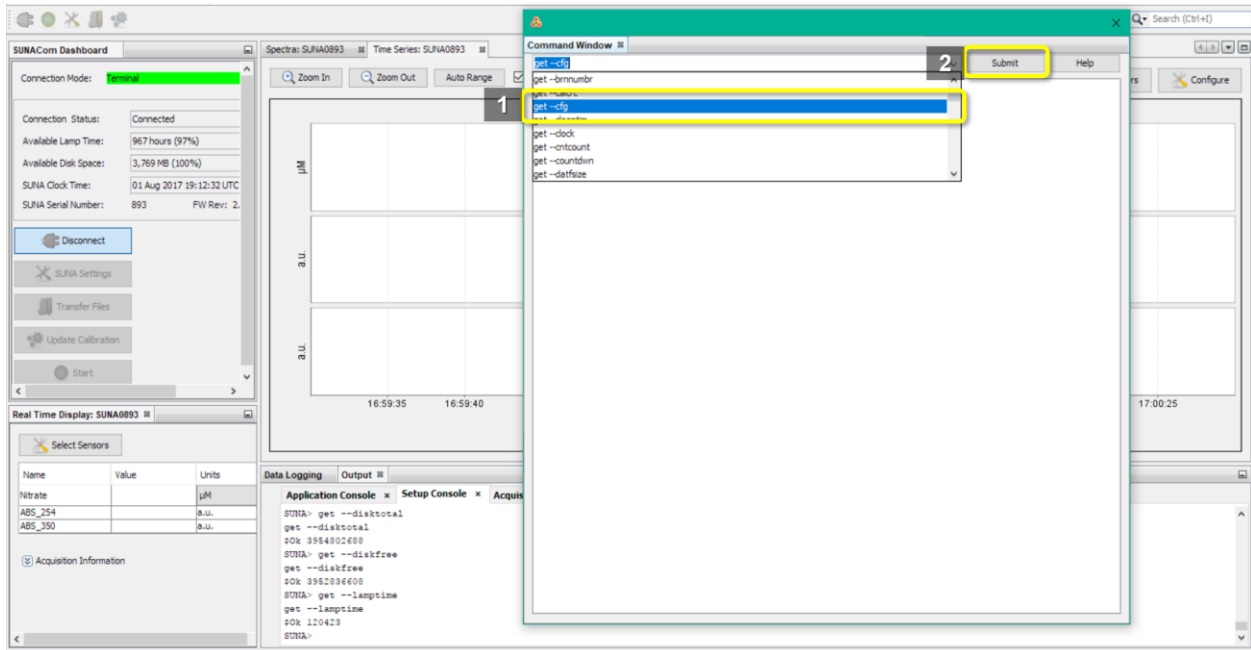

Figure 55. Command Terminal Window "get -- cfg"
10. This opens a **“Command Terminal”** window. Select **“get --cfg”** and click **“Submit”**. This loads your SUNA configuration settings (see Figure 55).